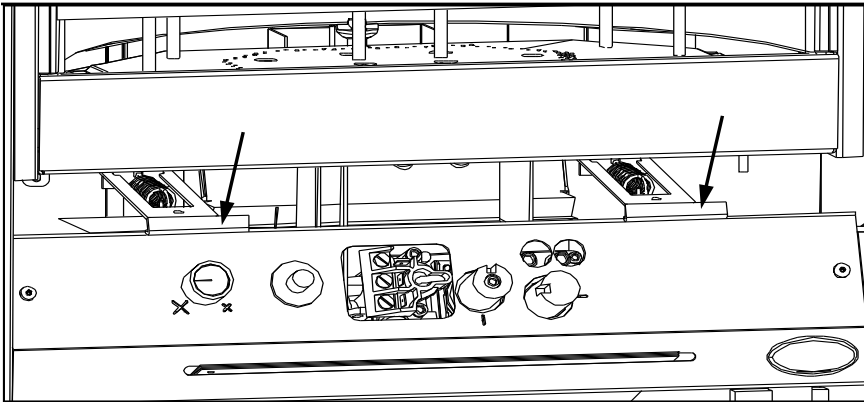

Figure 6. Bottom latches for glass, disengaged.
In order to install the log set, and for regular cleaning, the glass door must be removed. There are two (2) door latch mechanisms under and two (2) above the glass door shown in Figure 6 & 7. Each latch has two (2) finger grooves, use these to pull the mechanisms straight out. When the latches are unhooked, lift the door up and forward off the unit.